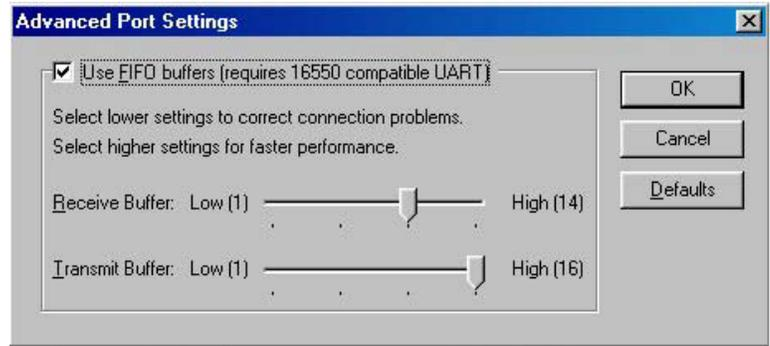

Figure 39
Step 6: In the **Advanced Port Settings** screen (Figure 39) select the fields as shown.